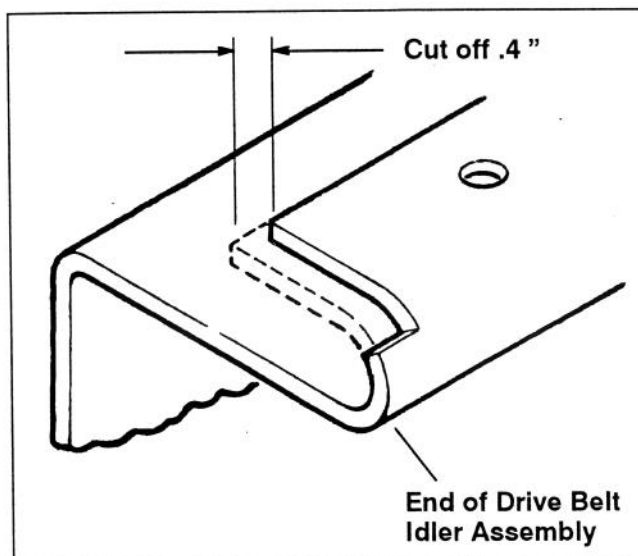

Figure 1
5. Using a hack saw, cut material off end of idler pulley assembly (Fig. 1 below). This allows clearance for lift rod.
1. Using a hack saw, cut material off end of idler pulley assembly (Fig. 1). This allows clearance for lift rod.